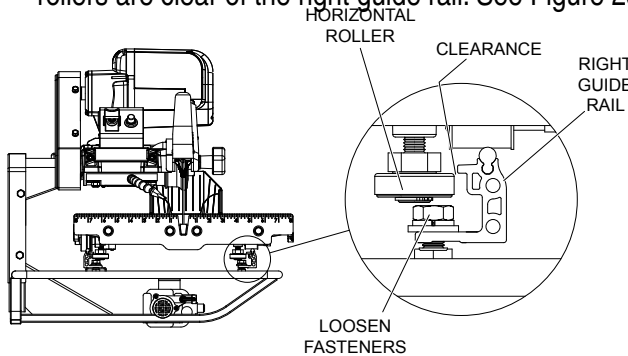

**Figure 22. Adjust Right Guide Rail**
7. Adjust the right guide rail so that the horizontal rollers underneath the table engage the rail as shown in Figure 22. In most cases the rollers will not have to be vertically adjusted. Spacing between rails must be equidistant at all points to ensure that they are parallel. Once adjustments are made, lightly tighten the fasteners on the right rail and move the table back and forth. If the table binds against the rail at any point, adjust spacing accordingly until the table moves smoothly.
4. After adding shim(s), mount the table onto the guide rails by reversing the instructions in step 2. Move the rails toward each other to engage the horizontal rollers to the right guide rail as shown in Figure 22. Realign the table to the blade using Method 1. Check to see if any shifting persists. A shift tolerance of 0.2mm (.008 in.) is allowed. A shift in excess of that will require further adjustment—repeat step 3.
4. Restore the horizontal rollers to their original positions as shown in Figure 22 by reversing the instructions in step 1. Be sure to tighten the lock nuts and replace the rubber caps.